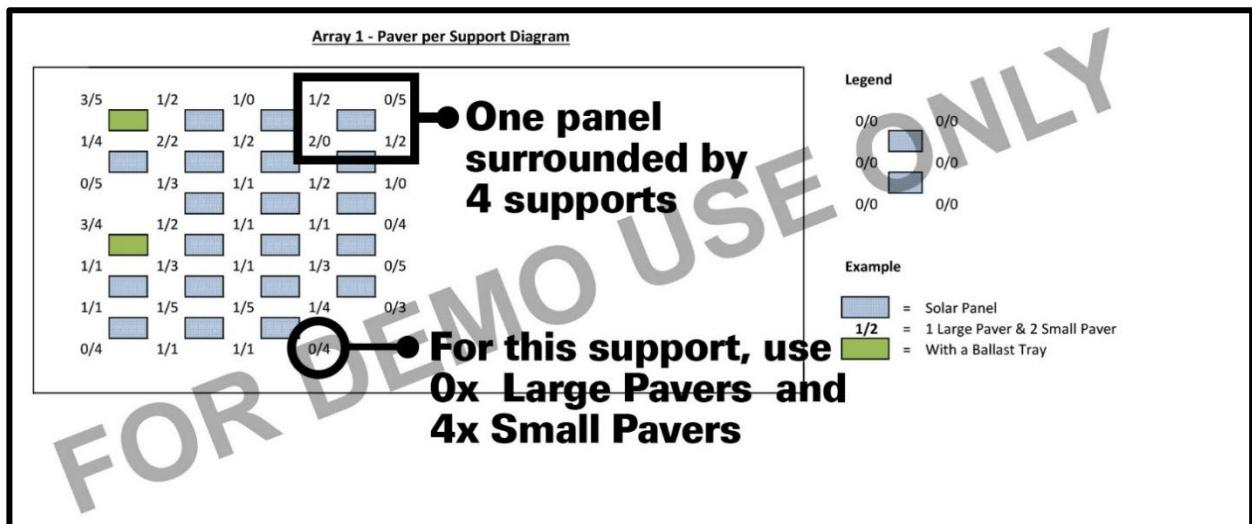

Fig. 6 - Sample Paver Layout
- 1 Use your project specific *Paver Layout* to place paver block combinations onto all module supports (see example, Figure 6).